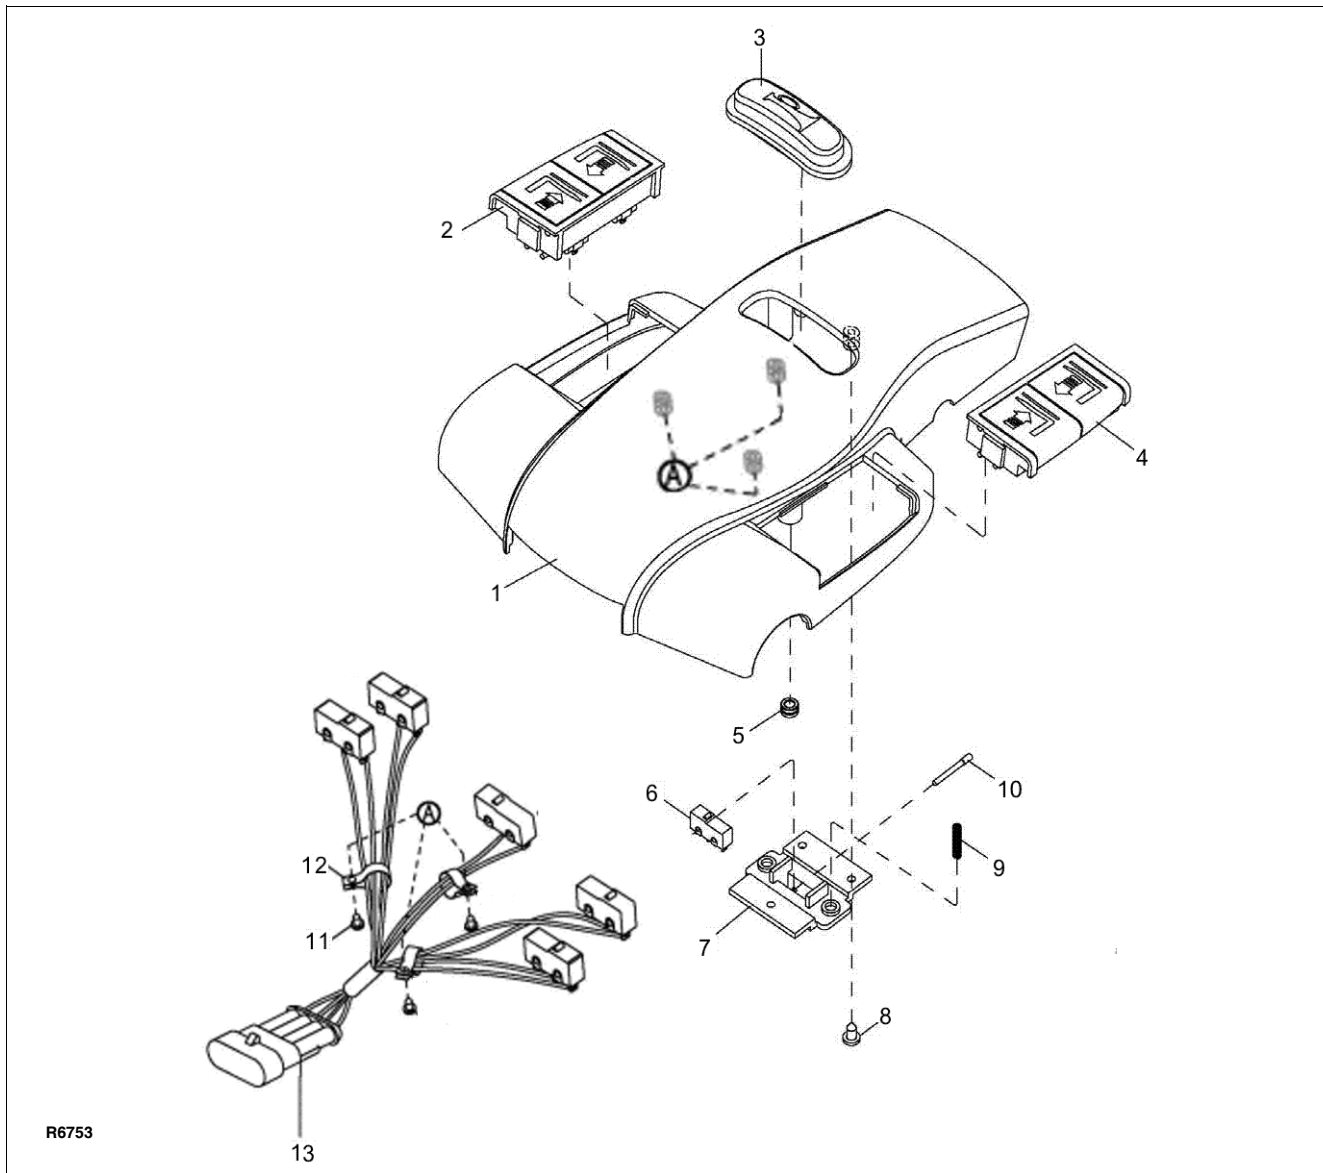
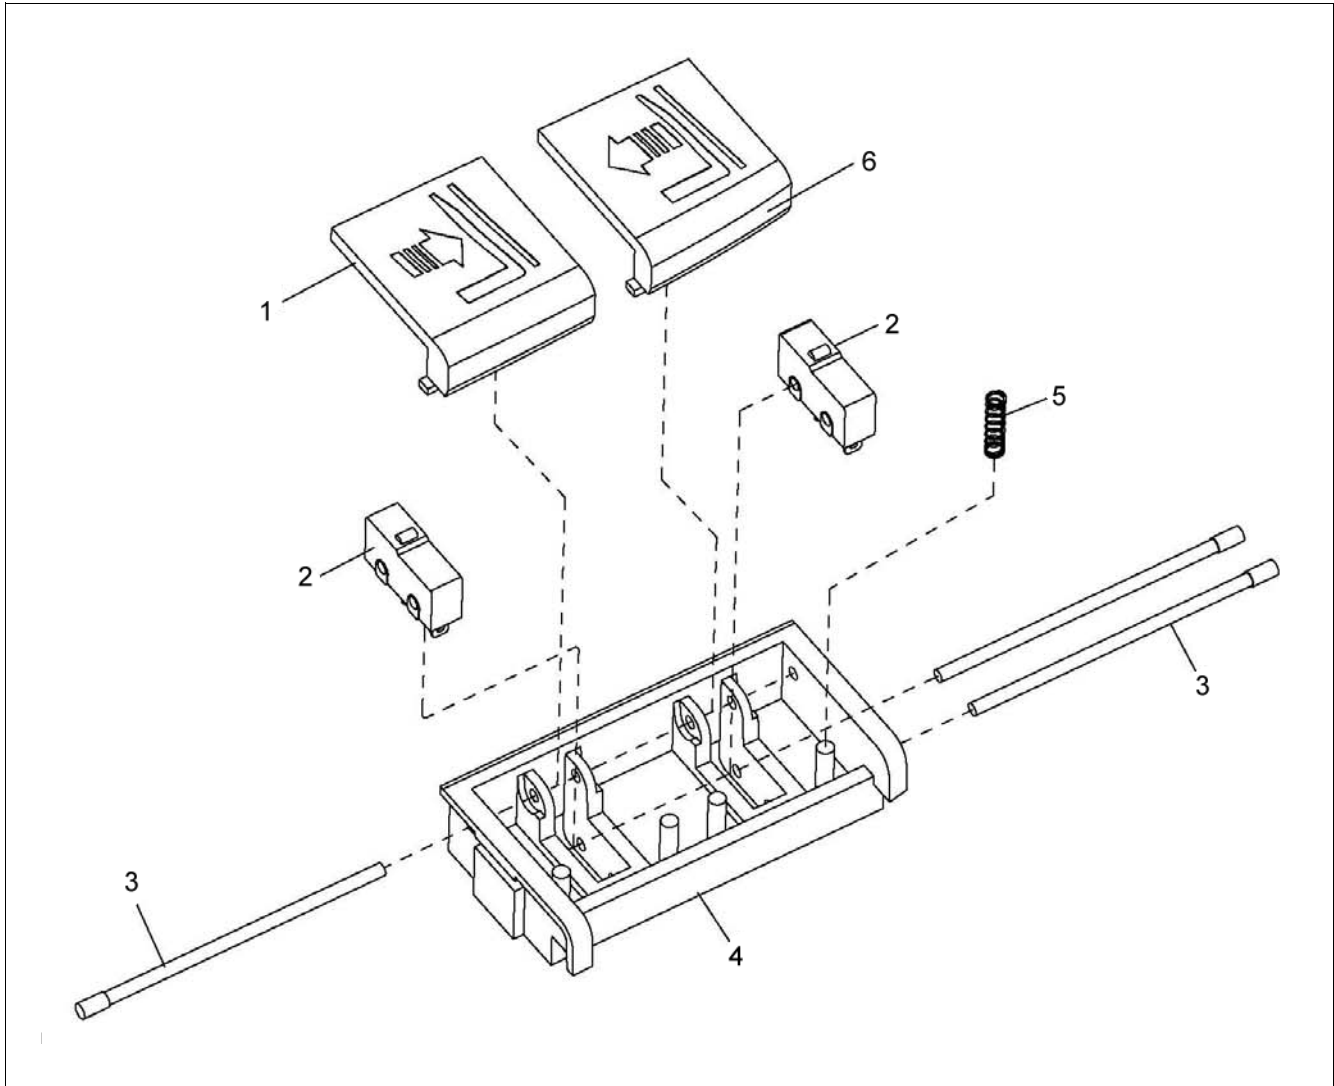

Figure 5-4 Cap Assembly
Figure 5-5 Left Lift/Lower Switch Assy (Right Similar)
3. Disconnect harness (13, Figure 5-4) from harness (17, Figure 12-17) and remove cap assembly (1).
2. Remove three screws (8, Figure 5-4), bracket (7) and two springs (9).
3. Remove two pins (10) and switch (6) from bracket (7).
4. Unsolder harness (13) from switch (6).
5. Remove the harness (13) from the switch (6).
6. Position new switch (6) in bracket (7) and secure with two pins (10).
7. Position bracket (7) with two springs (9) in cover (1) and secure with three screws (8).
2. Remove switch assembly (2 or 4, Figure 5-4) from the cap (1)
3. Remove pin (3, Figure 5-5) securing buttons (1 and 6) to bracket (4) and remove the buttons.
4. Remove two pins (3), two switches (2) and four springs (5) from bracket (4).
5. Unsolder harness (13, Figure 5-4) from defective switch (2, Figure 5-5).
6. Solder the harness to new switch (2).
7. Position switches (2) and four springs (5) in bracket (4) and secure with two pins (3).
8. Position switch assembly (2 or 4, Figure 5-4) in cover (1) and secure with pin (3, Figure 5-5).